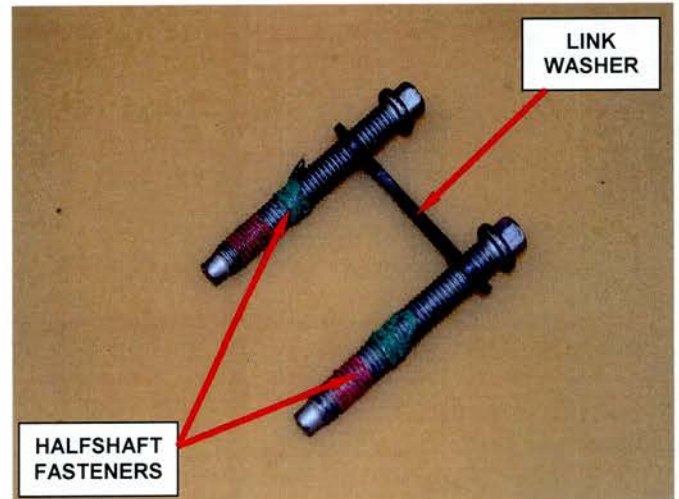

Figure 9 – Halfshaft Fasteners and Link Washer
1. **For vehicles with a halfshaft replaced**, engage all six new halfshaft-to-gearbox output flange fasteners evenly and snug fasteners (Figure 9).
4. **For vehicles that had all halfshaft fasteners removed for inspection**, install six new halfshaft-to-gearbox output flange fasteners and snug fasteners (Figure 9).
- a. Remove and discard two original fasteners at a time that are connected with a link-washer (Figure 9).
- c. Carefully install two new fasteners with a link washer (Figure 9). Snug the fasteners, but do not tighten at this time.